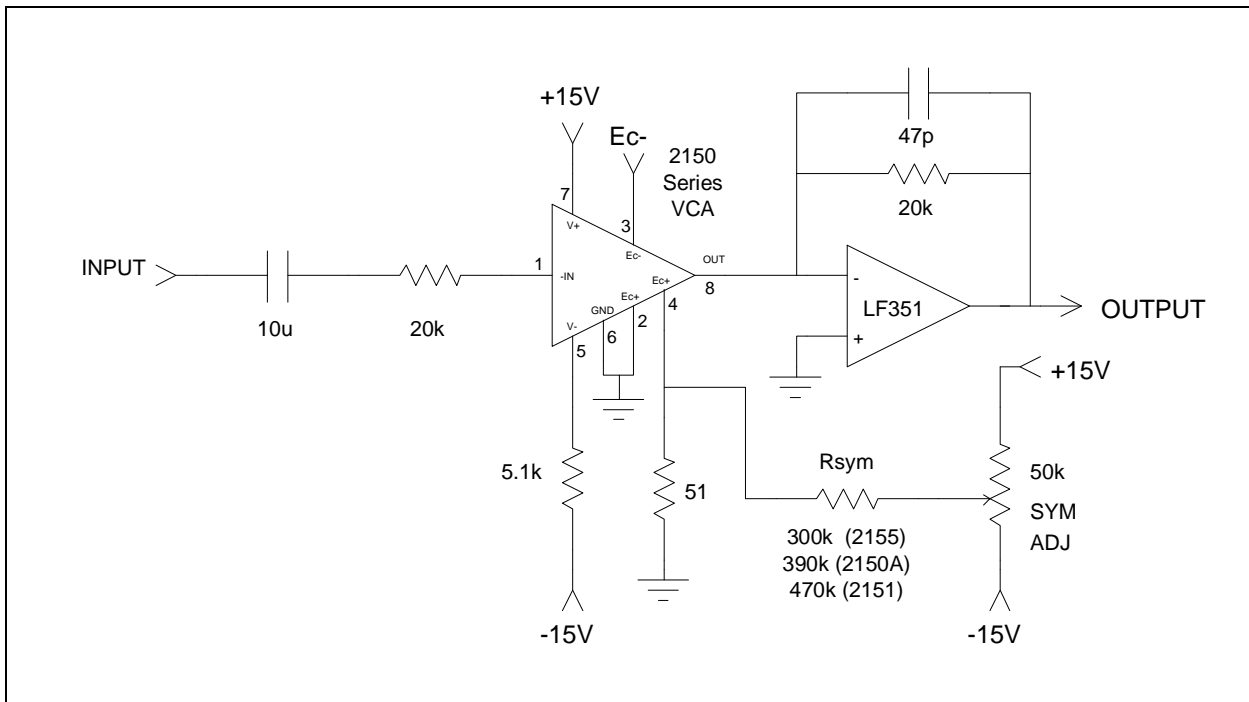
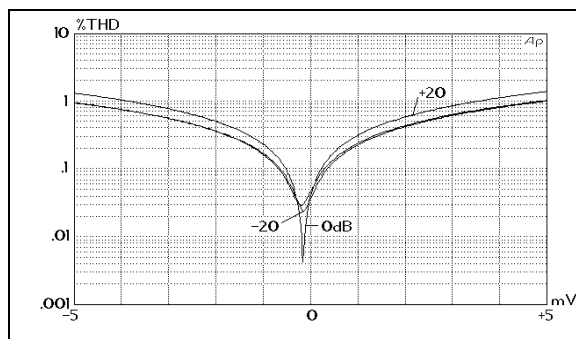
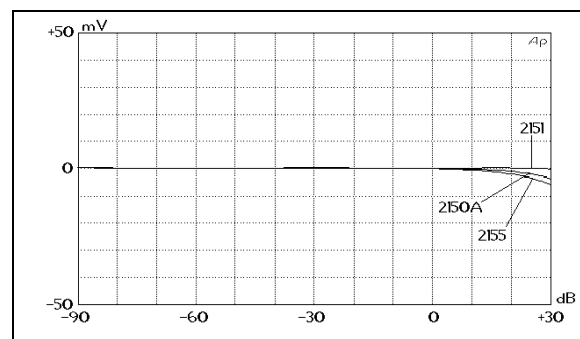

Figure 3. Typical Application Circuit
Figure 8. Typical THD Versus Symmetry Voltage
Figure 9. DC Offset Vs. Gain, After Symmetry Adjustment
2. Unless otherwise noted, T_A = 25°C, V_{CC} = +15V, V_{EE} = -15V. Test circuit is as shown in Figure 3. SYMADJ is adjusted for minimum THD @ V_{in} = 1 V, 1 kHz, 0 dB gain.
The monolithic construction of the devices assures relatively good matching between the paired transistors, but even small V_{BE} mismatches can cause unacceptable asymmetries in the output. For this reason, the bases of Q1 and Q4 are brought out separately to pin 2 and pin 4, respectively. This allows a small static voltage differential to be applied to the two bases. The applied voltage must be set to equal the sum of the V_{BE} mismatches around the core (*which varies from sample to sample*). Figure 3 (Page 3) includes a typical circuit to apply this symmetry voltage. R_{SYM} controls primarily even-order harmonic distortion, and is usually adjusted for minimum THD at the output. Figure 8 plots THD vs. the voltage between pins 2 and 4 (the two E_{C+} ports) for various gain settings of a typical part.
vent such dc terms, ac input coupling is strongly recommended. A plot of typical output offset voltage versus gain for the circuit of Figure 3 is shown in Figure 9. (The LF351's offset was adjusted to 0 V for this plot.)
The input pin (pin 1) is a virtual ground with negative feedback provided internally (see Figure 6, Page 4). The input resistor (shown as 20 kΩ in Figure 3, Page 3) should be scaled to convert the available ac input voltage to a current within the linear range of the device. (Peak input currents should be kept under 1 mA for best distortion performance.) An additional consideration is stability: the internal op amp is intended for operation with source impedances of less than 30 kΩ at high frequencies. For most audio applications, this will present no problem.
The output pin (pin 8) is intended to be connected to a virtual ground node, so that current flowing in it may be converted to a voltage (see Figures 3, 14, & 15). Choose the external op amp for good audio performance. The feedback resistor should be chosen based on the desired current-to-voltage conversion constant. Since the input resistor determines the voltage-to-current conversion at the input, the familiar ratio of R_f/R_i for an inverting op amp will determine the overall voltage gain when the VCA IC is set for 0 dB current gain. Since the VCA performs best at settings near unity gain, use the input and feedback resistors to provide design-center gain or loss, if necessary.
symmetry voltage ($<\pm 2.5$ mV) to correct for V_{BE} mismatches within the VCA IC. For this purpose, the 2150 series devices were designed for optimum performance with an impedance of approximately 50Ω at pin 4. A trim pot is used to adjust the voltage between pin 4 and pin 2 as shown in Figure 3, Page 3. For supply voltages other than shown, scale R_{SYM} to provide the required adjustment range.